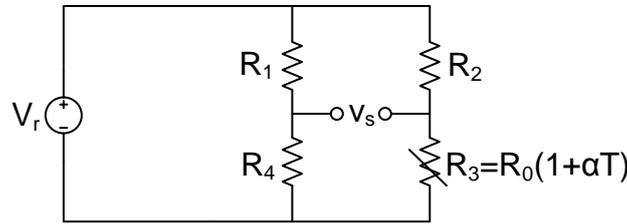
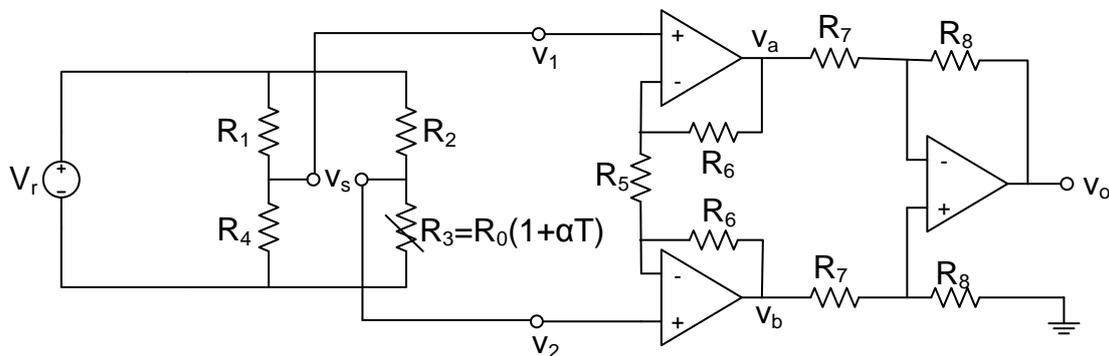
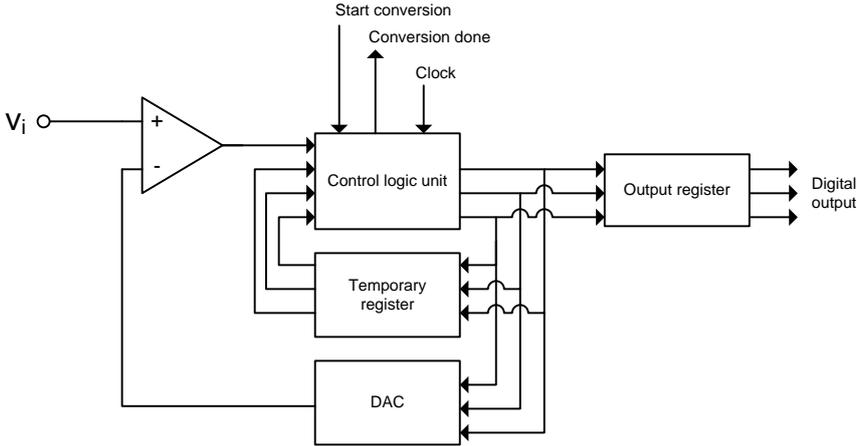

Figure 6: Bridge circuit with a RTD temperature sensor.
Figure 7: Sensor circuit connected to instrumentation amplifier.
Figure 8: Successive approximation ADC.
A resistive temperature detector (RTD) can be used to measure the temperature of an object. Figure 6 shows a bridge circuit with an RTD which is exposed to a temperature T . This temperature will be in the range $[0^\circ\text{C}, 100^\circ\text{C}]$. The RTD is a PT100 sensor with $R_0 = 100 \Omega$ and $\alpha = 0.004/^\circ\text{C}$ at 0°C .
- (8p) (d) The sensor circuit from Figure 6 is connected to an instrumentation amplifier (see Figure 7). Show that the output voltage v_o of the circuit shown in Figure 7 is equal to:
(5p) (g) The output of the sensor circuit shown in Figure 7 is connected to the input of the successive approximation AD converter shown in Figure 8. This ADC accepts input voltages between 0 V and 5.1 V and it converts those to an 8-bit binary value. Assume that the output voltage of the sensor circuit v_o is equal to 3.00 V. Draw the DAC output (labels and levels) and its binary input for the first seven bits tested.